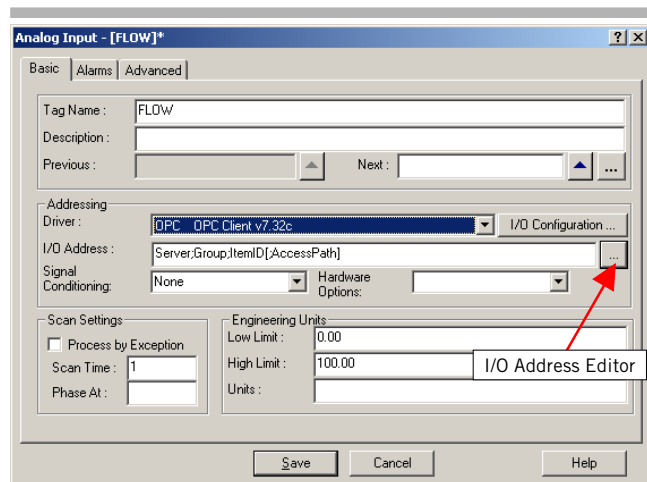

Fig 6.
- 3.3 From main menu **Blocks** → **Add** → select **AI** for the analog input block. This will open the Analog Input editor block (Fig 6).